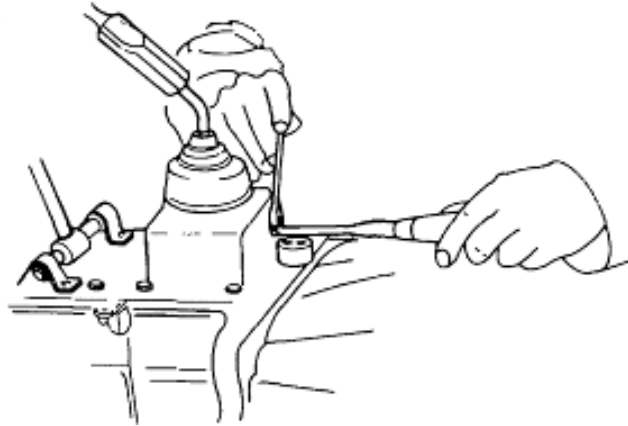

Figure 62 Reverse Stop Screw Adjustment
- j. Adjust the reverse stop screw to lightly contact the selector (Figure 62).